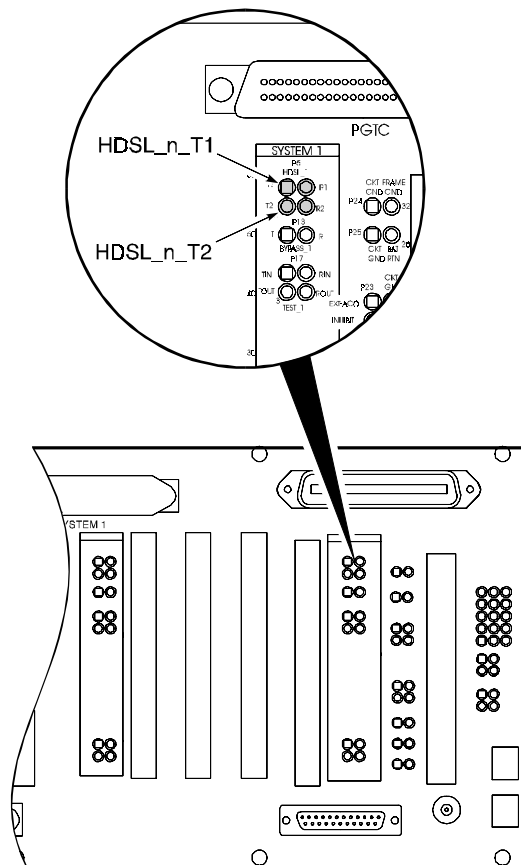

Figure 6. Connecting the HDSL Lines
8.3 HDSL Lines. Connect the HDSL lines (Figure 6). Note that n is: